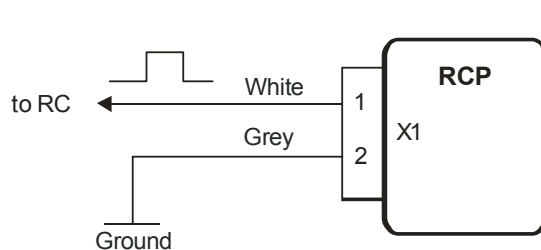
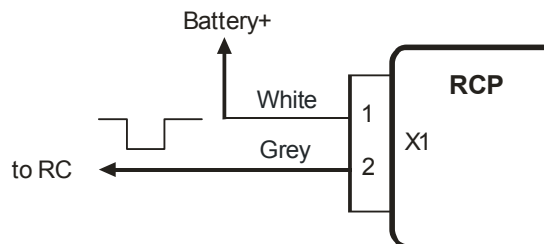

Figure 4
Figure 5
- The fig.4 presents the scheme of turning ventilation on by the impulse of positive polarity. The fig.5 presents the scheme of turning ventilation on by the impulse of negative polarity.